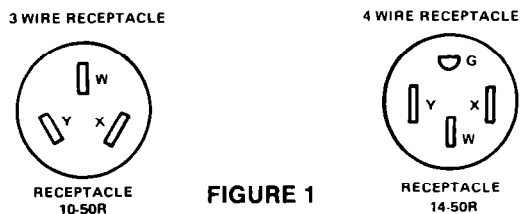

FIGURE 1
C. Local codes may permit the use of a flexible type 50 ampere UL listed power supply cord (pigtail) with no smaller than No. 8 copper wire to match three-wire receptacle of NEMA type 10-50R shown in Figure 1. A suitable strain relief must be provided at the point the copper power supply cord enters the appliance.
If a four-wire receptacle of NEMA type 14-50R is used (see Figure 1), a matching UL listed copper power supply cord (pigtail) must be used. This cord should contain two No. 8, one No. 10 white neutral and one No. 8 green ground (minimum) copper conductors with ring terminals on the range end and the other end terminating in a NEMA type 14-50P